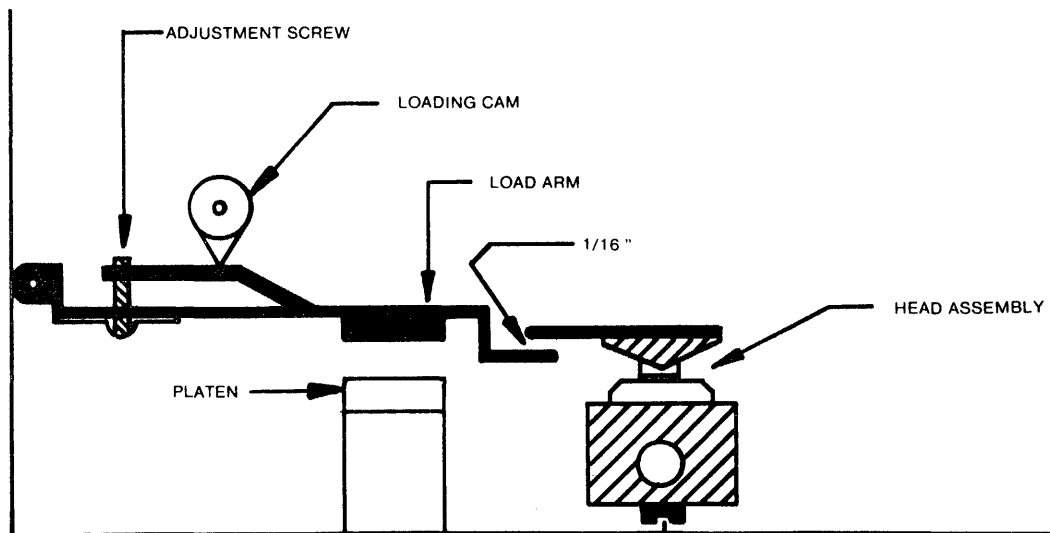

Figure 4-12. Load Arm Adjustment, Front View
This adjustment is made to ensure proper loading of the head when the diskette is engaged (see figure 4-12).
4. Adjust the Allen screw located behind the head load cam until there is a space of $1/16$ inch (see figure 4-12).